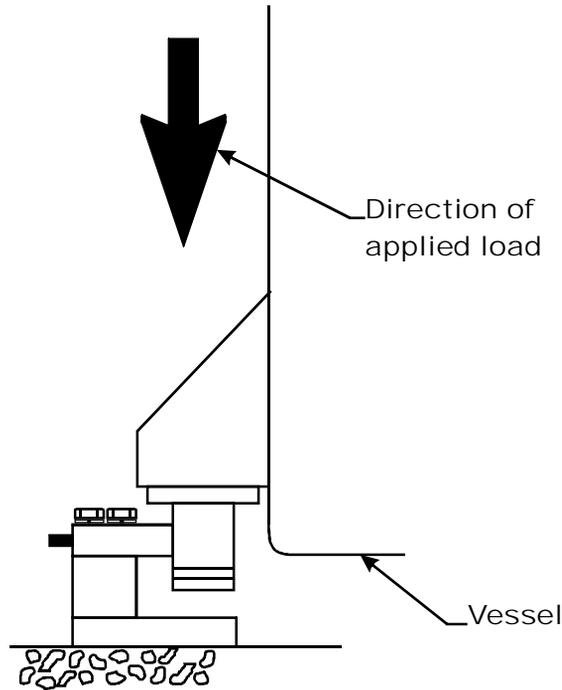

FIG. 302 PROPERLY INSTALLED LOAD CELL/NO BINDING
- On some load cells there is an arrow that indicates the direction of the applied load. If the arrow is pointing in the wrong direction, change the position of the load cell so that it is mounted in the direction of the applied load. (See Fig. 302)
- A load cell must be mounted so that 100% of the load (Vessel + Contents) are vertically passing through a load cell. (See Fig. 302)